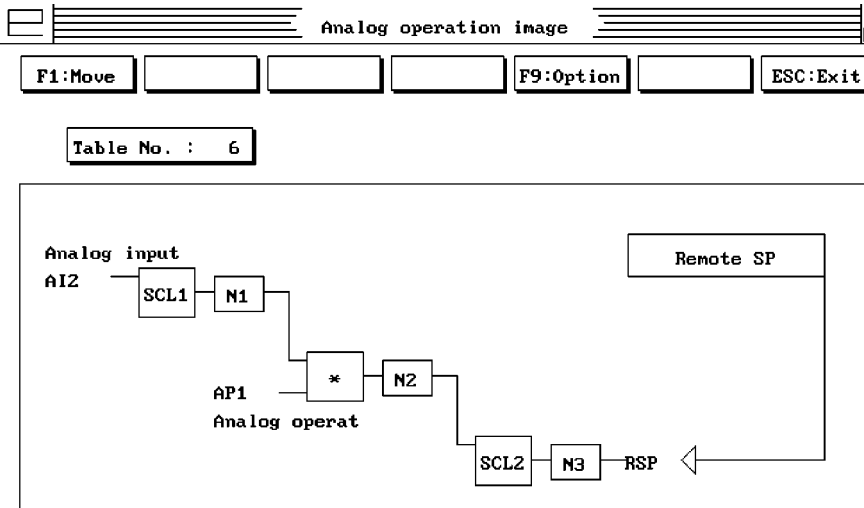

Figure 9
- In the final operand (N3) AI2 was scaled to provide a useable number for display on the front panel of the ES100. However, in order for the ES100 to use the data that AI2 provides, AI2 must be rescaled, or normalized to 0-1. This value is then transferred into the Remote Setpoint function of the ES100 (Figure 9).